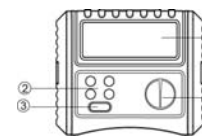

Figure 1
- Power: Alkaline battery 1.5V (AA) ×8pcs
- Accessories: Test leads, alkaline battery 1.5V (AA) ×8pcs, operating manual, carrying bag
V. Tester Description (See Figures 1 & 2)